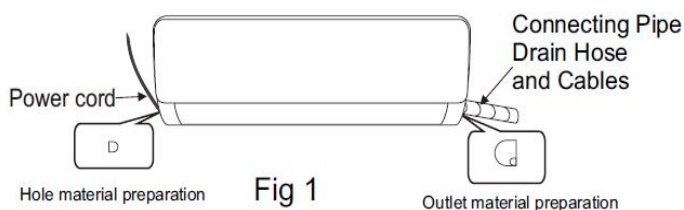
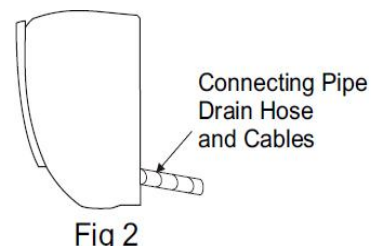

Fig 1
Fig 2
1. Depending on the position of the unit, the piping may be routed sideway from the left or the right (Fig 1), or vertically from the back(Fig 2)(depending on the pipe length of the indoor unit). In the case of sideway routing, cut off the outlet cutting stock of the opposite side.